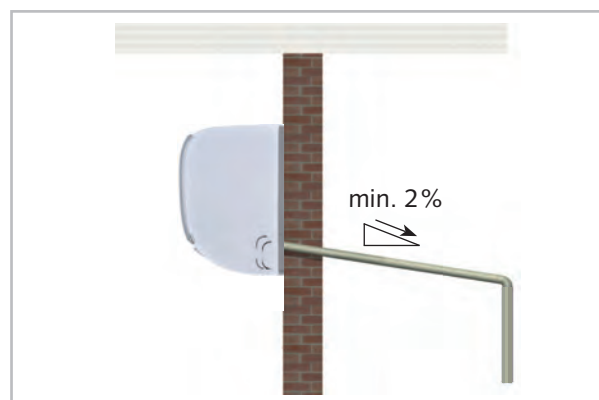

Fig. 40: Condensate drainage connection - Indoor unit
- The condensate drainage line should have an incline of min. 2% (Fig. 40). This is the responsibility of the customer. If necessary, fit vapour-diffusion-proof insulation.